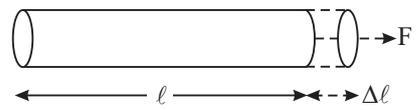

Fig. 8.6: Linear strain
- (i) **Linear Strain :** If on application of a longitudinal deforming force, the length ℓ of a body changes by $\Delta\ell$ (Fig. 8.6), then